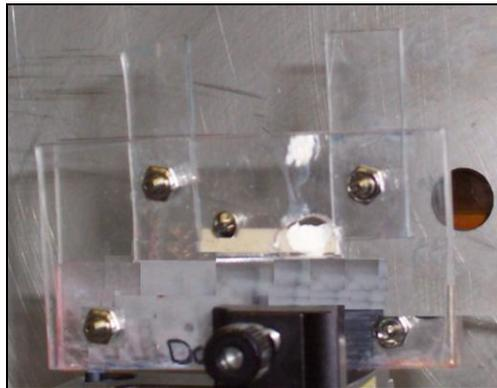
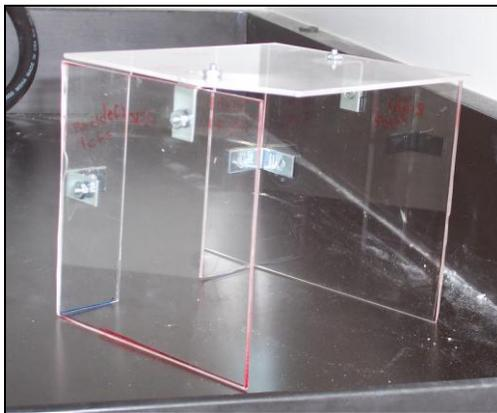

Figure 1: Example of Sample Holder
Figure 2: Example of Safety Box
The HV source will be use to pole ceramic samples in-situ during a variety of applications. Some of those applications include x-ray diffraction and while using a light-optical microscope. The ceramic sample that is being poled must be contained in an insulated device (as shown in Appendix I, Figure 1). The lead and ground wires must also be completely insulated and protected behind a guard or protection shield (as shown in Appendix I, Figure 2).
1. The sample should be placed in a proper holding/poling device to ensure user safety and that the sample will not move during poling (see Appendix I, Figure 1)
5. Place the safety enclosure around the sample holder and the HV wires, ensuring the any exposed alligator clip or metal conducting surface is enclosed with-in the safety enclosure (as shown in Appendix I, Figure 2).